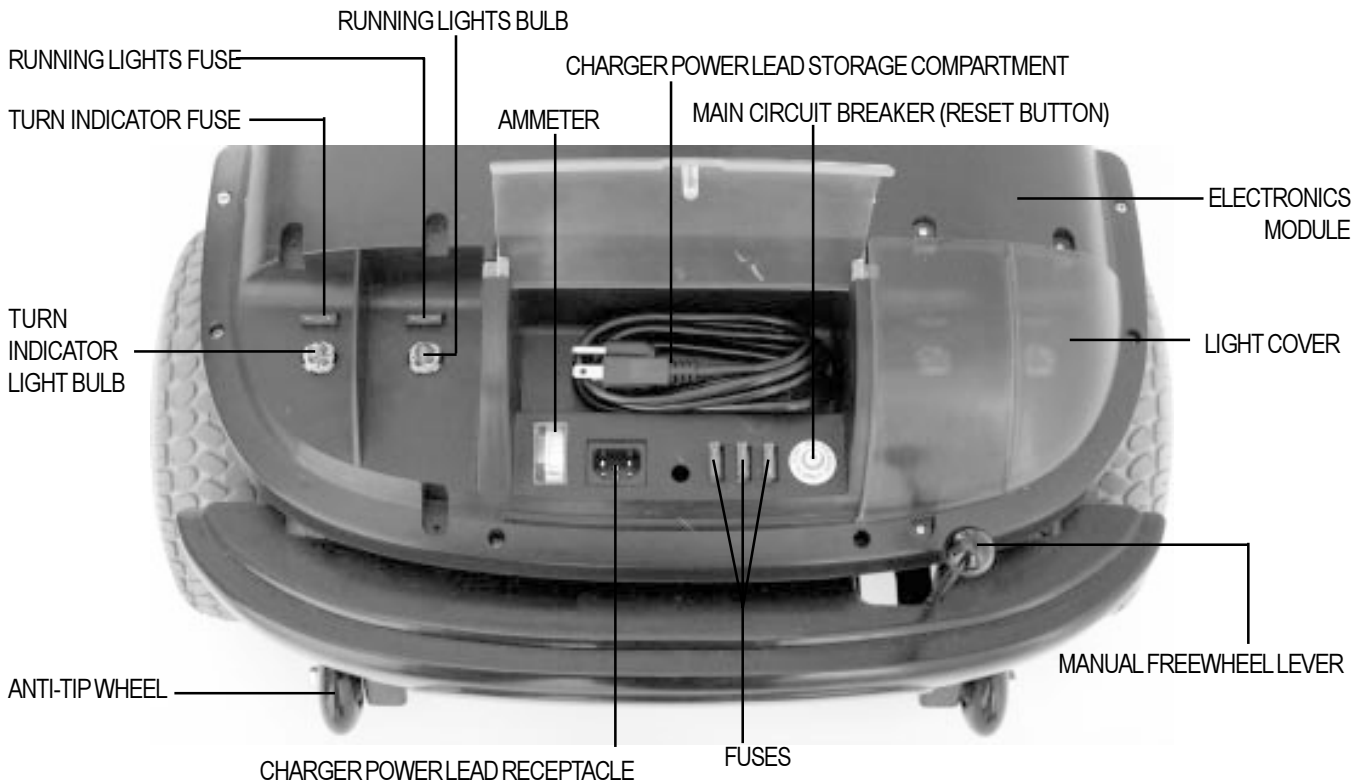

FIGURE 7. REAR SECTION (LEFT LIGHT COVER REMOVED FOR CLARITY)
The onboard battery charger (not shown), the charger power lead receptacle, the batteries (not shown), the electronics module, the main circuit breaker (reset button), the ammeter, the manual freewheel lever, the anti-tip wheels, and the motor/transaxle assembly (not shown) are located on the rear section of your Hurricane. See figure 7. Refer to IX. “Disassembly and Assembly” for instructions on removing the rear shroud.
When the voltage in your Hurricane’s batteries becomes low or your Hurricane is heavily strained because of excessive loads or steep inclines, the main circuit breaker may trip to protect your Hurricane’s motor and electronics from damage. See figure 7.
- The manual freewheel lever is located on the end of the motor/transaxle assembly at the right rear of the Hurricane. See figure 7.
The anti-tip wheels are an integral and important safety feature of your Hurricane. Do not, under any circumstances, remove the anti-tip wheels from your Hurricane. See figure 7.